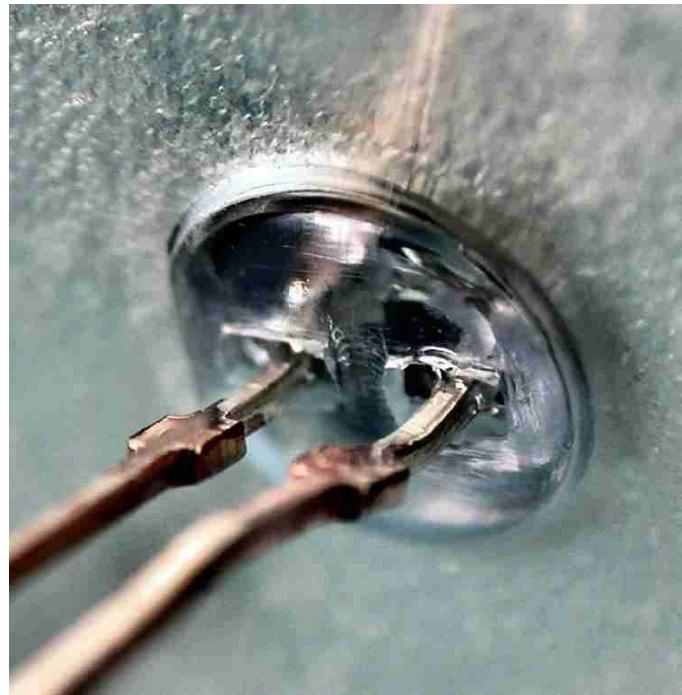

Fig. 11 — Flat rigid LED leads pass through the LED chamber wall and are soldered onto the circuit board. See figure 12 for a circuit board chamber overview.
**B - Circuit Board Chamber:** The two flat rigid leads of the LED pass through two rectangular holes in the wall between the LED chamber and the circuit board chamber as shown in figure 11. These